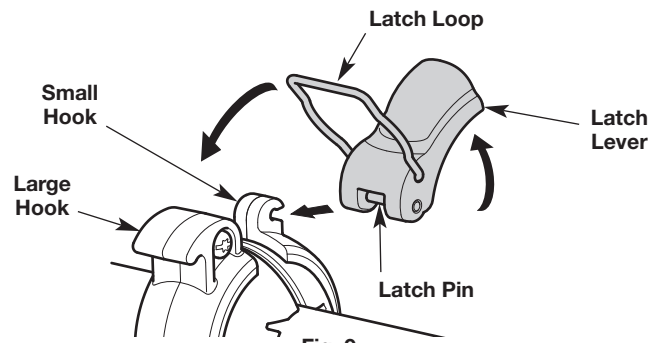

Fig. 9
6. Push the latch pin completely into the small hook on the handle (Fig. 9). Lift the latch lever up and push it toward the large hook (Fig. 9). Push the latch loop over the large hook (Fig. 9).